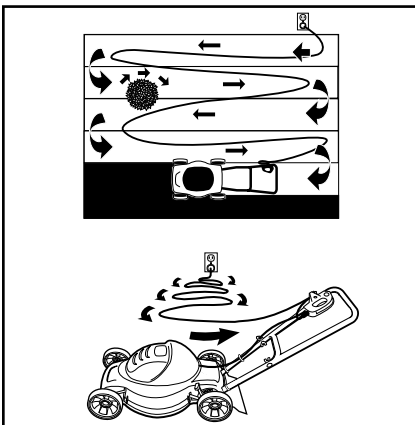

FIGURE 8
EXTENSION CORD TO ELECTRICAL OUTLET (FIGURE 8)
2. Start in direction where extension cord side of mower is closest to the outlet. Begin mowing in the area closest to the outlet and mow in a back and forth manner. Note the cord is kept on cut portion of lawn and out of the path of the mower. (Figure 8)